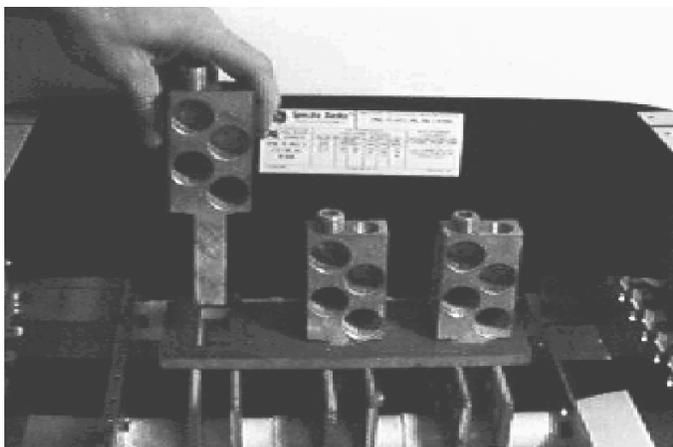

Figure 1. Lug tang inserted into the support.
1. **Orient the lug base** with the lug wire holes facing the end of the box marked LINE. For catalog numbers AMB2120MA, AMB3120MA, AMB2120MC, AMB3120MC, AMB2120DMC, AMB3120DMC, AMB2120DMA, and AMB3120DMA, feed the lug tangs through the support, as shown in Figure 1. Catalog numbers AMB2600MA, AMB3600MA, AMB2600MC, and AMB3600MC do not contain this support.